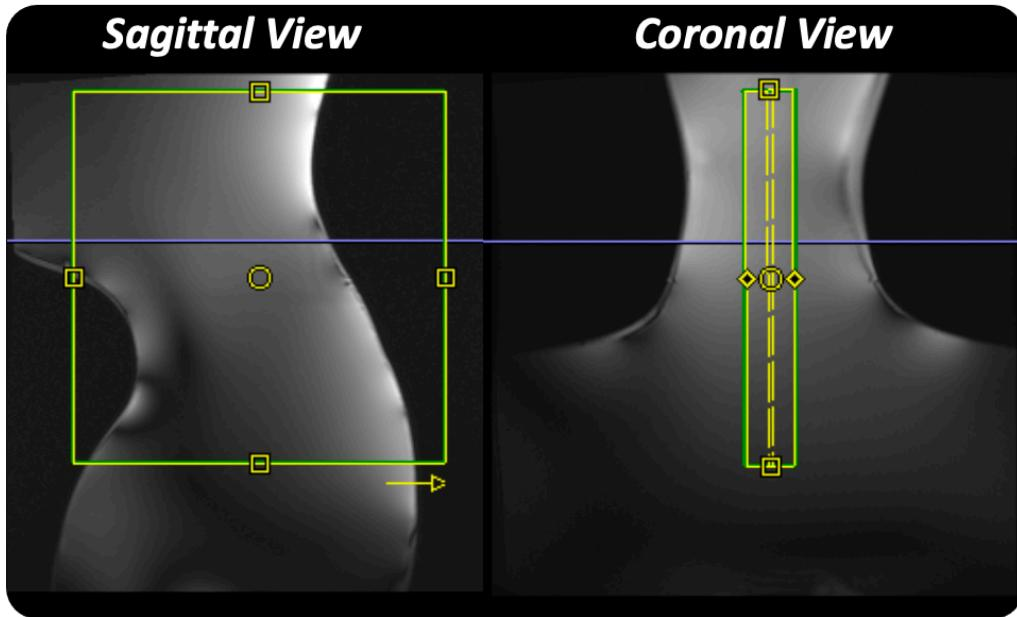

Figure 7. Positioning for Large FOV DREAM scans.
- **Position the Field of View (FOV) according to Figure 7.** The center of the FOV should roughly **correspond to the Isocentre**. If the FOV in the FH direction for the imported protocol is too large for your coil, use the largest FOV possible in the FH direction for your coil.